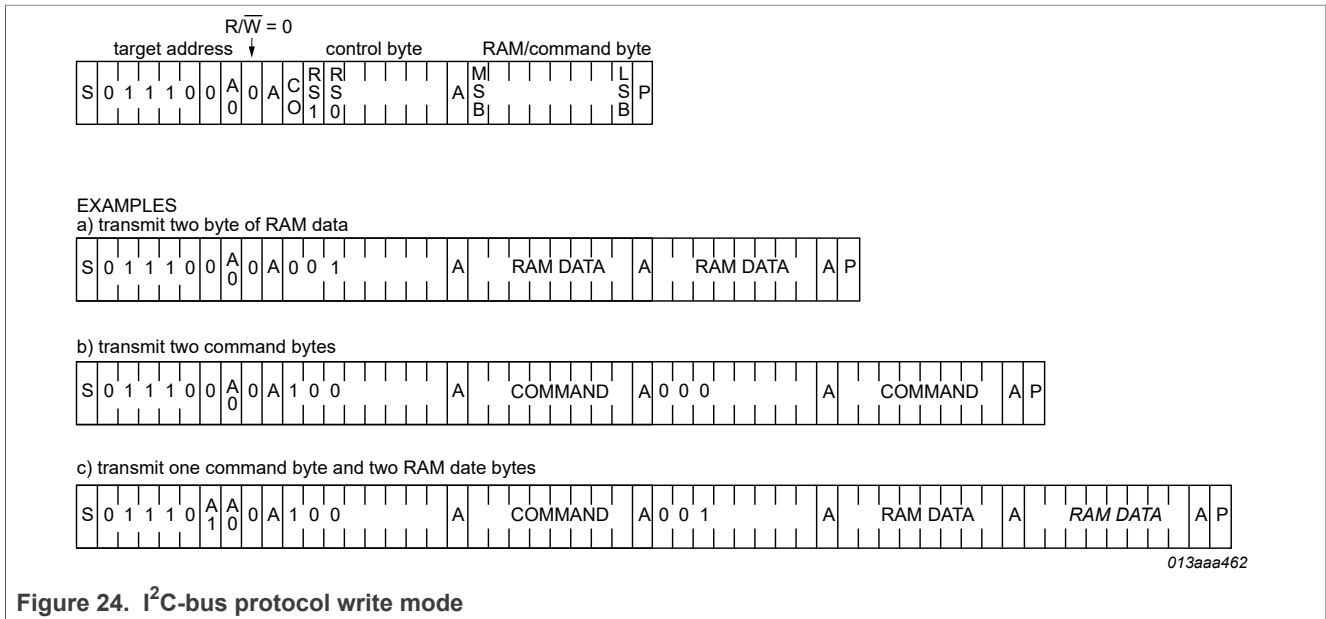

Figure 24. I2C-bus protocol write mode
The I2C-bus protocol is shown in Figure 24. The sequence is initiated with a START condition (S) from the I2C-bus controller which is followed by one of the two PCA8546 target addresses available. All PCA8546 with the corresponding A0 level acknowledge in parallel to the target address. But any PCA8546 with the alternative A0 level ignore the whole I2C-bus transfer.